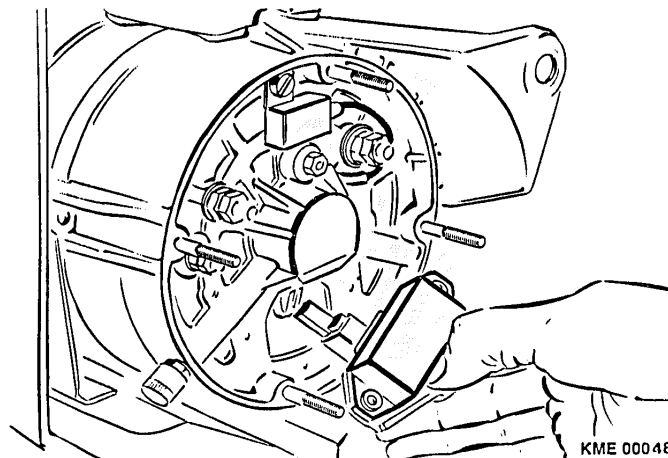

**Figure 36 Drive End Shield, Stator and Collector End Shield Assembly**
3. Insert guide pin KDLJ 6014 (Bosch Number 0 986 618 128) through the sliding bushing of the collector end shield and the bushing of the drive end shield. (Figure 36)
4. Start the four (4) drive end shield to collector end shield screws.
6. Insert four (4) 0.3 mm (0.012 in) feeler gauges between the stator and the rotor. The feeler gauges should be place in four diametrically opposed positions. (Figure 36)